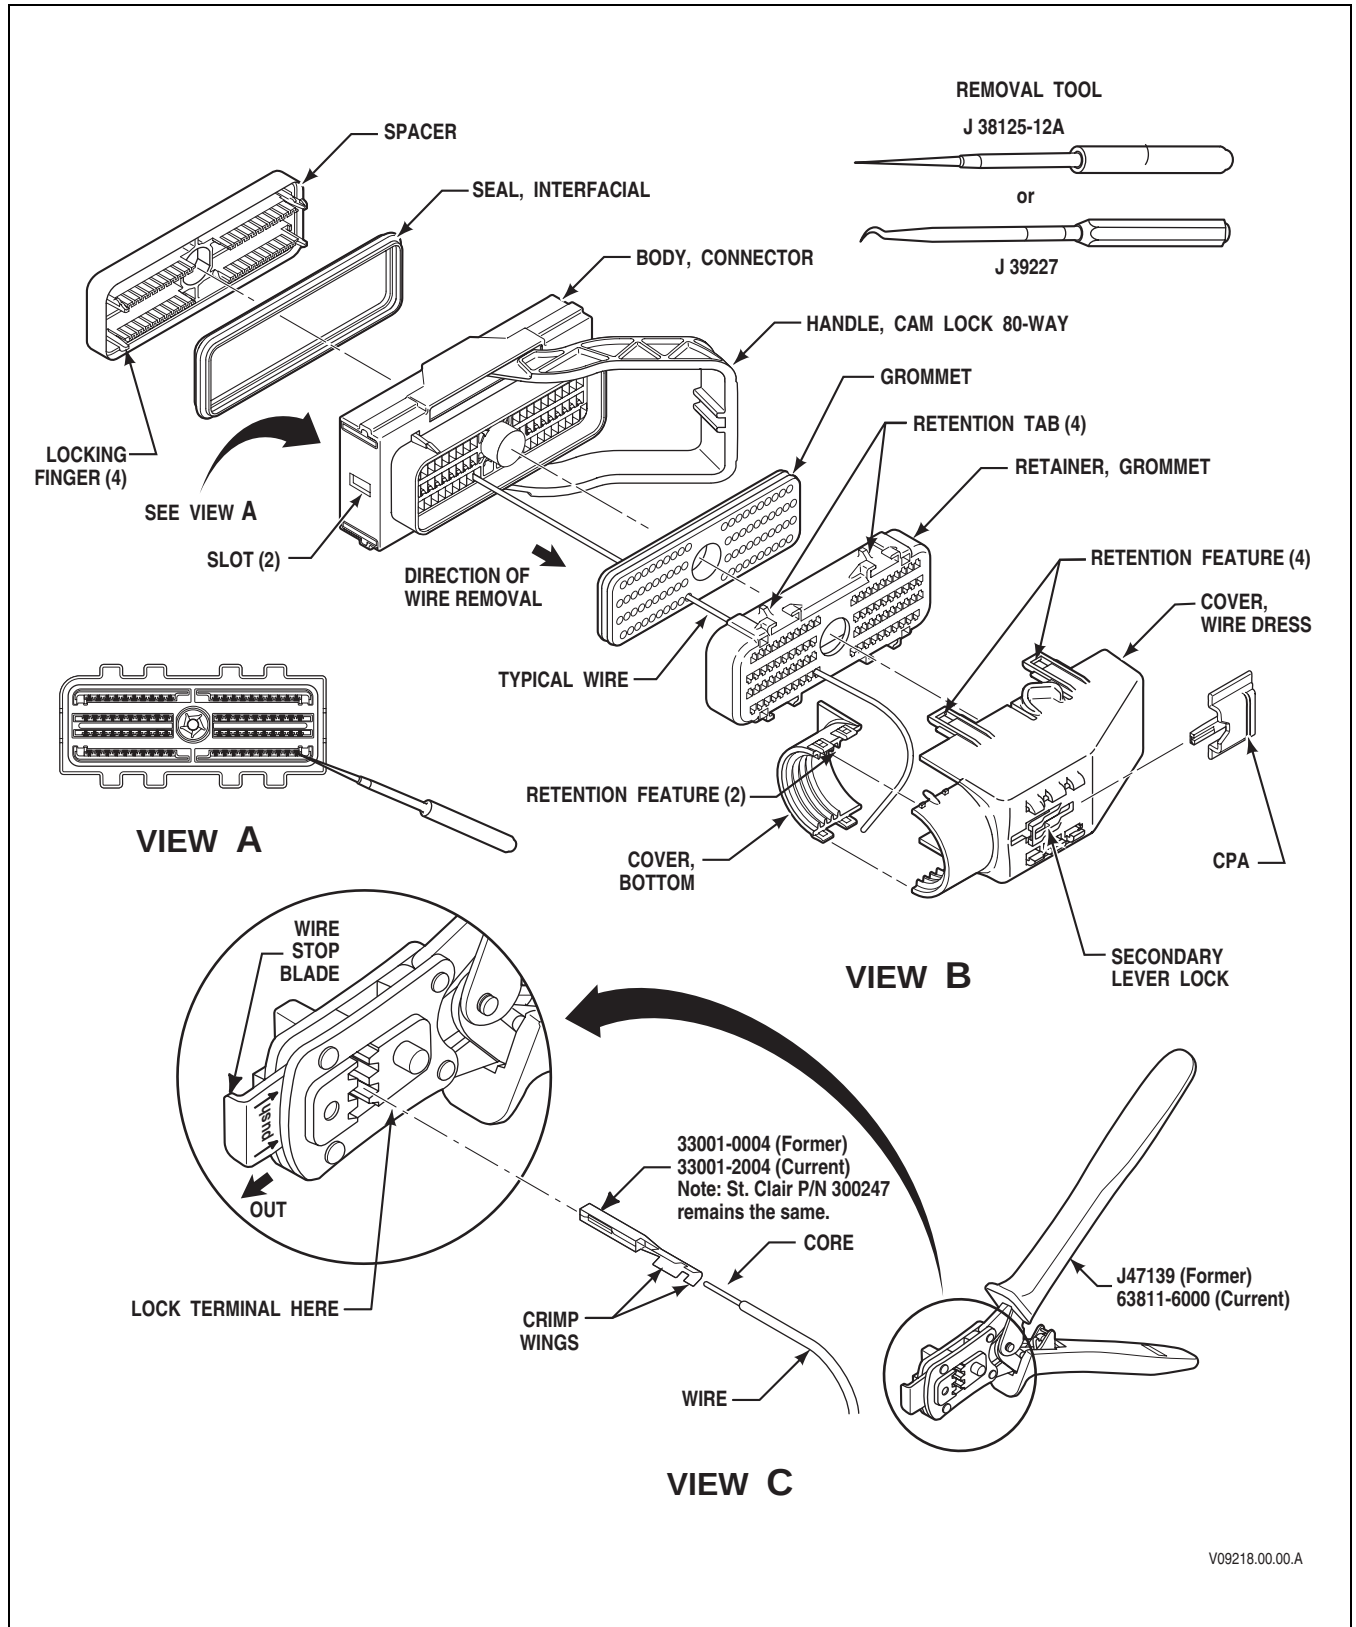

Figure E-2B. AFL 80F Cam-Assist, Direction 'B' TCM Connector
B. Connector, Assembly 80F Cam-Assist, 'B' Direction (refer to Figure E-2B)